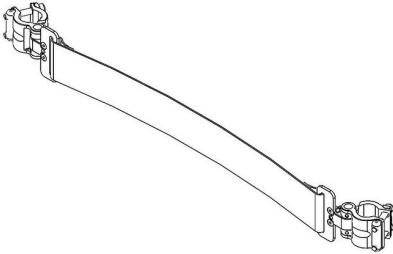

Figure 7
1) Install the anchor mechanisms at a predetermined height by tightening the jaw with a 4mm Allen key. (Figures 7 and 8)